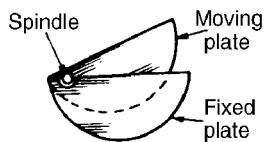

Figure 6.9
- 1 **Variable air capacitors.** These usually consist of two sets of metal plates (such as aluminium) one fixed, the other variable. The set of moving plates rotate on a spindle as shown by the end view of Figure 6.9.